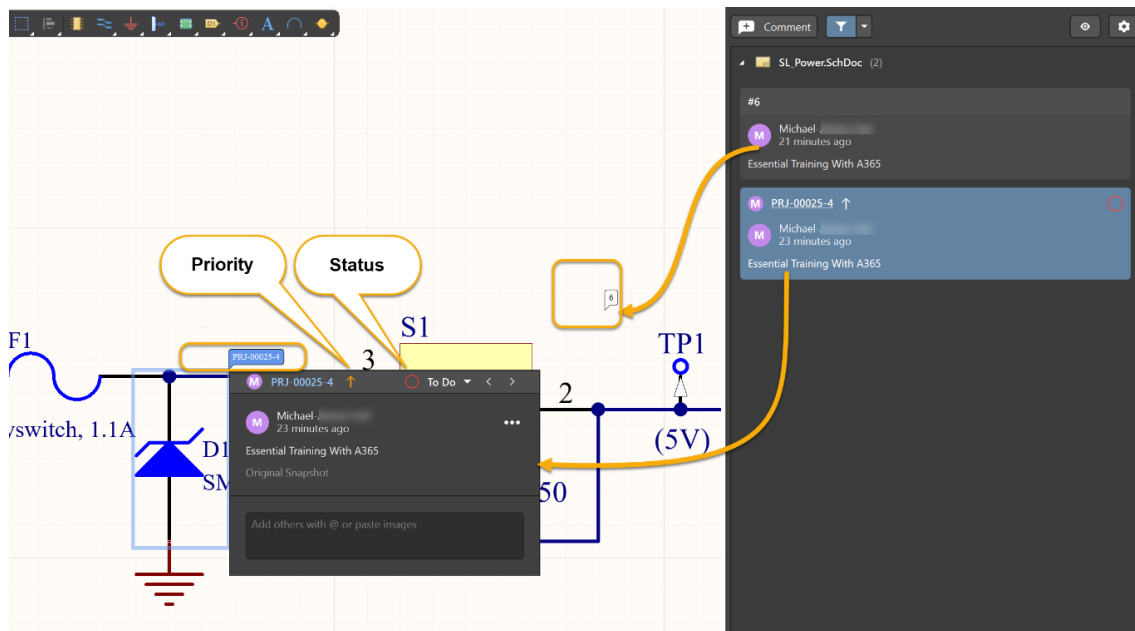

Figure 7. Open placed Tasks and Comments
14. A task offers the option to change the priority and to change the status of the task. It is also possible to add additional comments to an existing task / comment, Figure 7.